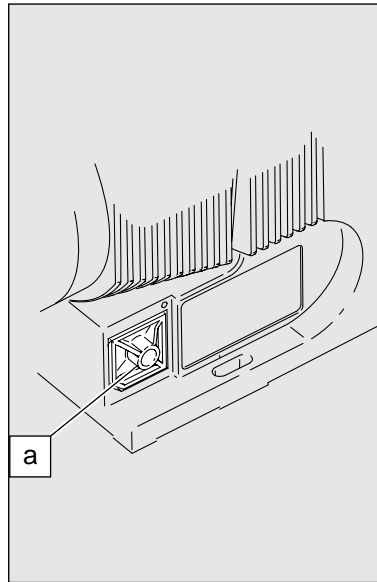

Fig. 15
- ▶ Place the gamma/ L on a firm surface with the relay opening press-out section at the top (see fig. 15:a)